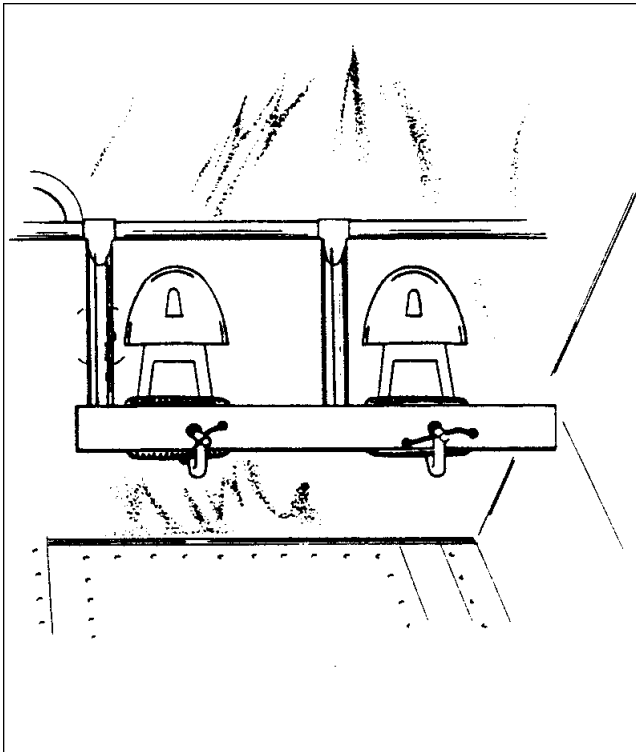

Figure 7-3. Clamping Rudder Pedals
- g. Clamp the rudder pedals together to align them in a lateral position. (Refer to Figure 7-3.) The rudder pedals are tilted $14^{\circ} \pm 3^{\circ} - 1^{\circ}$ aft of vertical when in their neutral position.